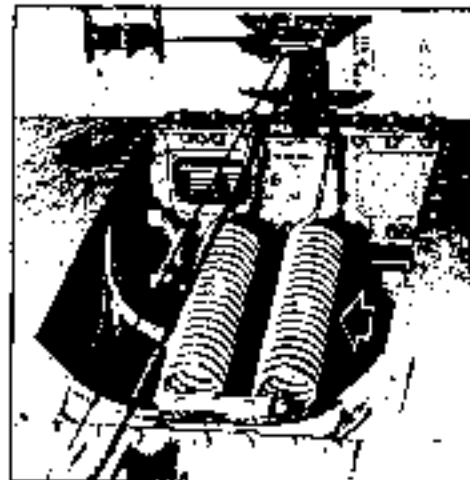

Fig. 5-18 Installation of down-spring
(3) Re-rig cable connecting down-spring with aft quadrant so that measured control force may be within values tabulated above. When control force found abnormal, check the following:
- (c) Proper tension of down-spring. (See Fig. 5-18)